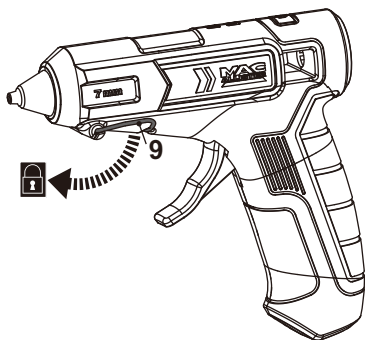

Fig. 1
1. Unfold and swivel the stand holder (9) forward until it stops (Fig. 1).